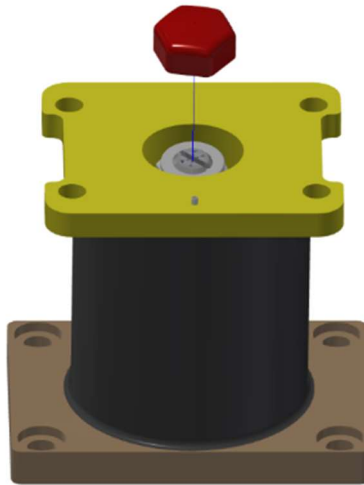

Figure 6-32. Vinyl nut cover over lumbar locknut
6.3.2 Place the Vinyl Hex Cap over the modified locknut (Figure 6-32).